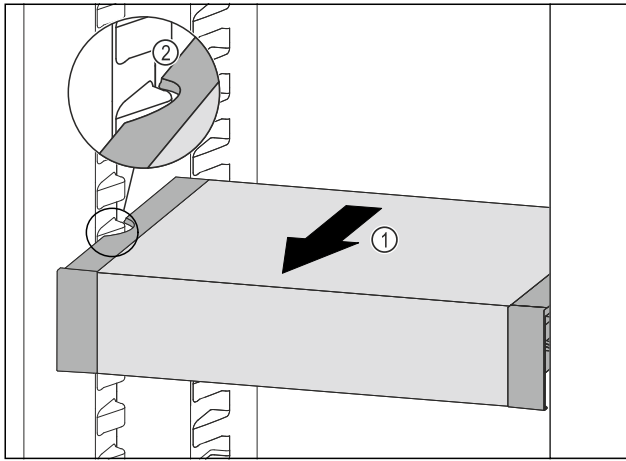

Fig. 62
- ▶ Pull VarioSafe forwards Fig. 62 (1) until the recesses in the side of the VarioSafe are at the level of the support rib in the refrigerator compartment. Fig. 62 (2)